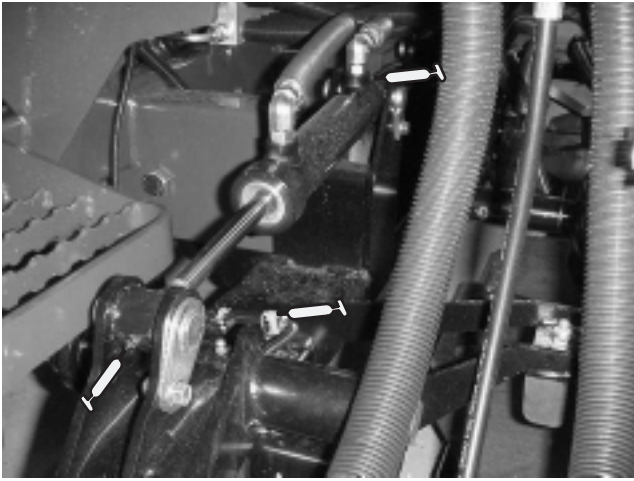

Figure 19
- Lift arm bushings (1 per deck) (Fig. 19)
- Lift cylinder bushings (2 per deck) (Fig. 19)